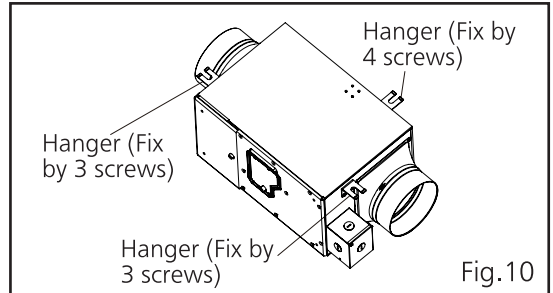

Fig.10
1. Fix the hangers (3 pcs) on fan body by screws. (Fig.10)